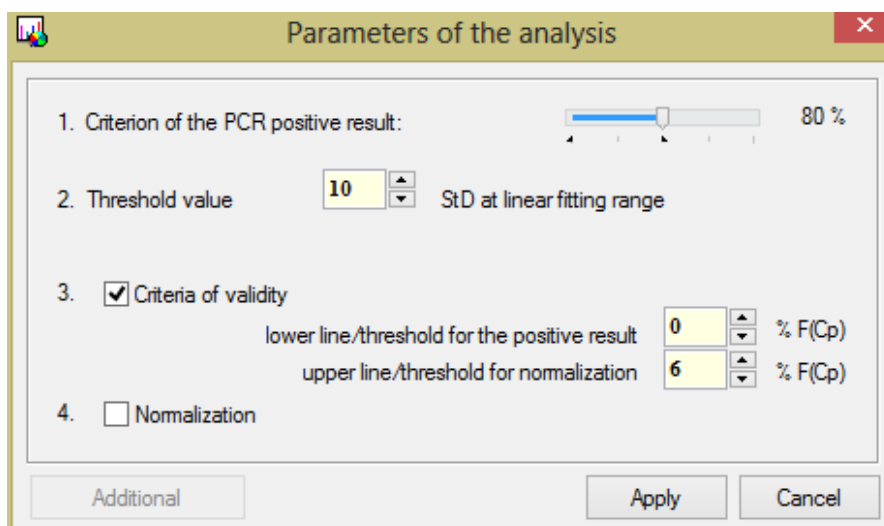

Fig.77 The analysis parameters
– button is intended to open the window **Parameters of the analysis** (see "**Parameters of the analysis** "). The default values are preset and optimal. When conducting scientific research and for a more detailed analysis of the obtained data, change the preset parameters for processing the results of optical measurements and data analysis (Fig.77).